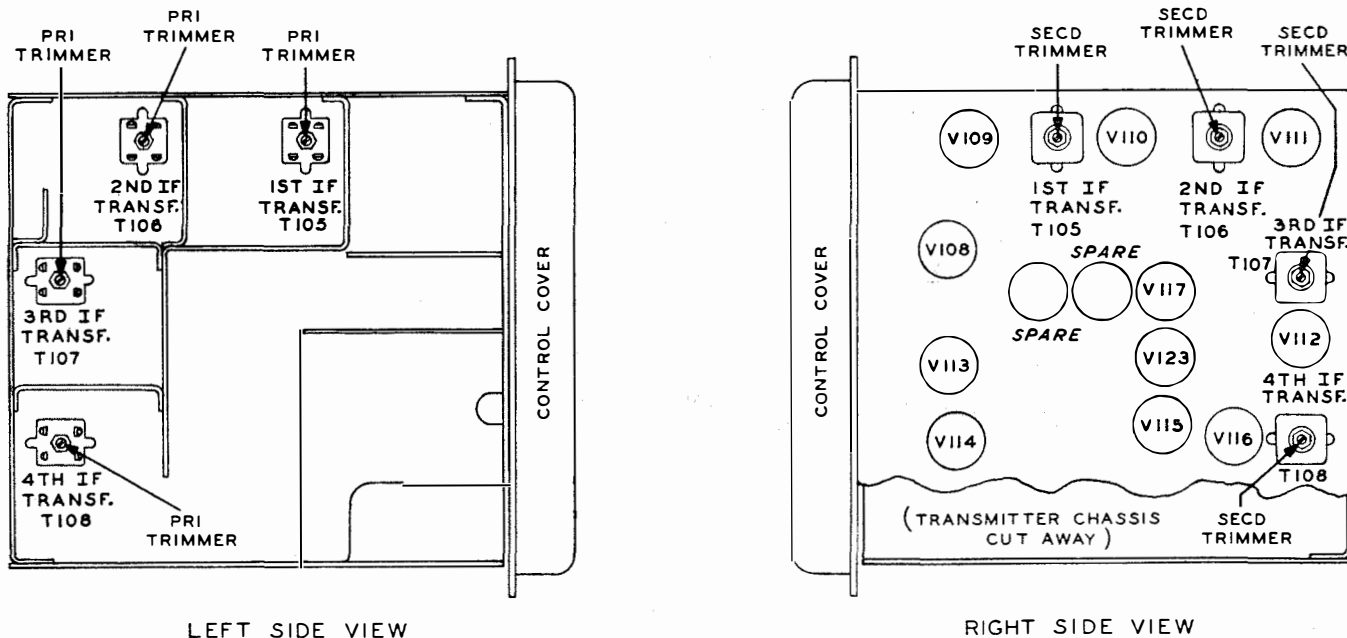

Figure 5-11—IF Transformer and Trimmer Locations
All possible causes of faulty operation should be investigated before attempting alignment. Proper alignment of the IF amplifier stages is extremely important for the proper operation of the receiver; however, alignment should not be attempted unless it is certain that the receiver is misaligned. The proper step by step procedure is given in the following paragraphs and should be followed whenever the receiver must be aligned. The location of each trimmer adjustment is shown in figure 5-11.
(1) Connect the output meter across the terminals of the transducer, LS101, or to the pins of the external audio receptacle, J105.
(2) Adjust the signal generator to 5.3 mc.
(3) Feed the signal through a .01 mf capacitor to the grid of the first detector tube (terminal number 1 on socket X109), using a short connector, preferably shielded.
(4) Connect the signal generator ground lead to the receiver chassis.
(5) Unsolder the plate lead of the AVC tube, V115, (terminal number 7 on socket X115) to disable the AVC action.
(6) Operate the signal generator switch to the on position.
(7) Adjust the VOLUME control of the receiver to the maximum position.
(8) With the PRESS TO CUT SQUELCH switch depressed, adjust the signal generator output for a reading within the range of the output meter.
(9) Allow both the receiver and the signal generator to warm up several minutes before making any adjustments.
(10) Start with the fourth IF transformer and progress toward the first detector tube, referring to figure 5-11 for trimmer locations.
(11) While making adjustments, press the PRESS TO CUT SQUELCH switch to cut the squelch action of the squelch stage.
(12) Adjust each trimmer for a maximum indication on the output meter.
(13) Readjust the output of the signal generator, if it is necessary, for a reading within the range of the output meter.
(14) Reconnect the plate wire that was disconnected on the AVC tube socket.